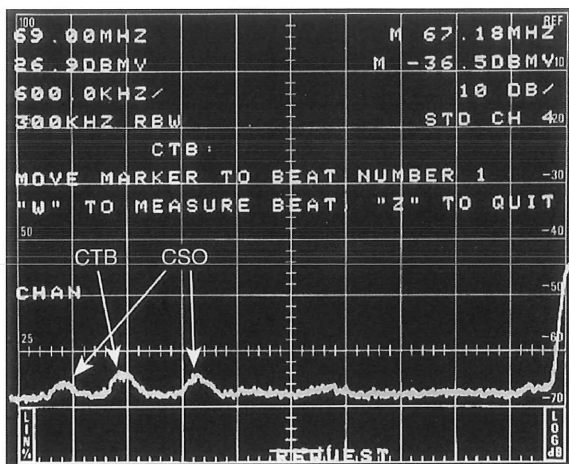

Figure 12. Positioning a marker on a beat. Notice that both second order (CSO) and third order (CTB) beats are present.
8. Look for beats in the display (see Figure 12). You may change settings on the 2714/2715 as desired to help view the beats. Reducing the resolution bandwidth (RES BW) and enabling the VID FLTR is quite effective in making the beats more easily visible. Use the large knob to move the marker to the first beat you want to measure (the marker does not need to be exactly centered on the beat – the 2714/2715 will search within 100 kHz of the marker frequency) and press W. The 2714/2715 measures the amplitude and relative frequency of the beat you selected, displays the results on-screen, then instructs you to MOVE MARKER TO BEAT NUMBER 2. If you wish to measure additional beats, repeat the above pro-